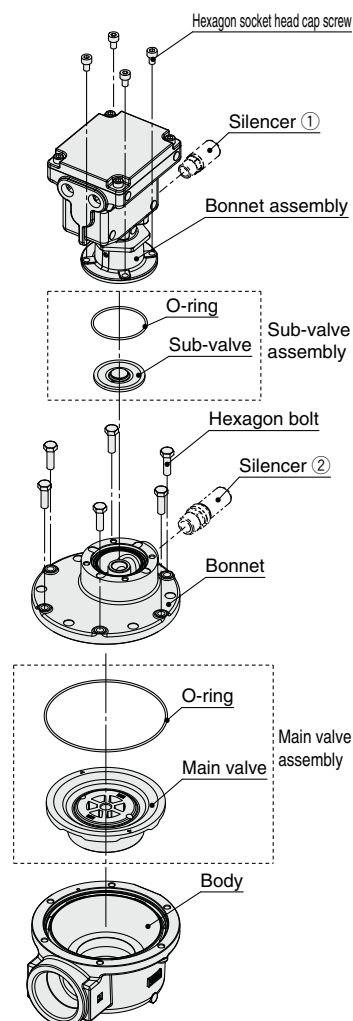

Fig. 2 O-ring position
- Mount the O-ring to the body groove. (See Fig. 2.)